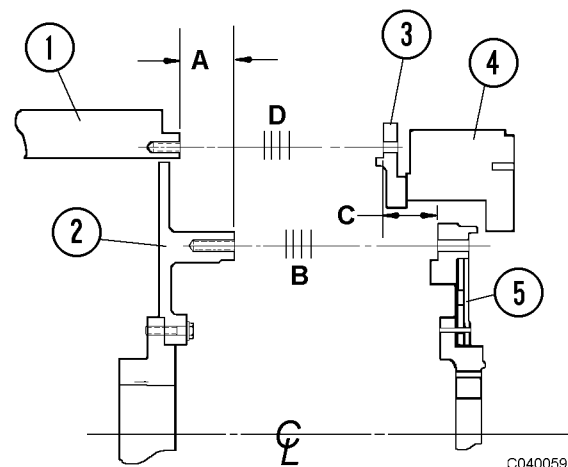

FIGURE 4-4. SHIM LOCATION
3. Refer to Figure 4-4. Move the engine crankshaft to the rear of its end travel.
Refer to Figure 4-4.
B = _____ Shim pack thickness to be installed at location B, Figure 4-4.
D = _____ Shim pack thickness to be installed at location D, Figure 4-4.